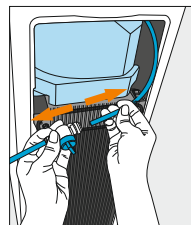

Figure 15
- 2. Turn off the water supply via the shut off valve, and disconnect the water supply from the cooler. (Figure 15)